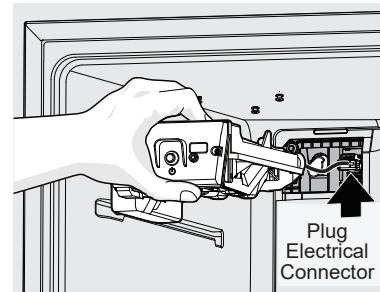

Figure 4
6. Plug the ice maker in the electrical connector on the back wall. Once connected, do not allow the ice maker to hang unsupported. See Figure 4.